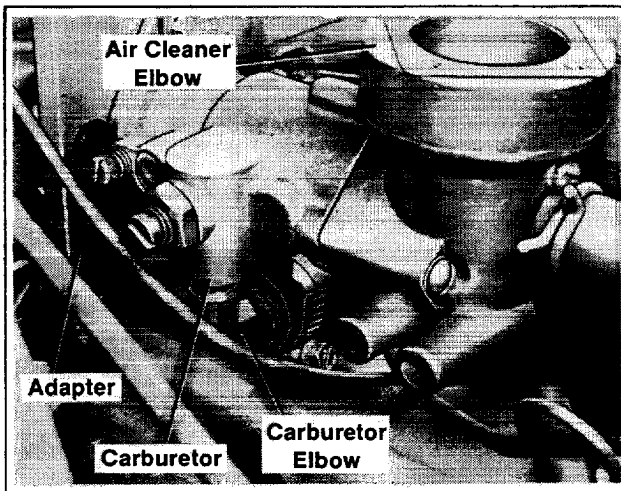

Figure 2. Mounting LP-Gas Parts
2. To the carburetor (A-277878) attach elbow (X-391-15) using pipe joint sealant. Place this at a 90° angle to the base of the carburetor (see Figure 2 for position).